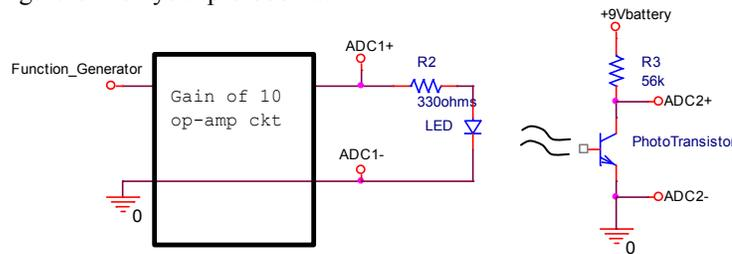

Figure C-2.
- Wire the circuit in Figure C-2 on your protoboard.